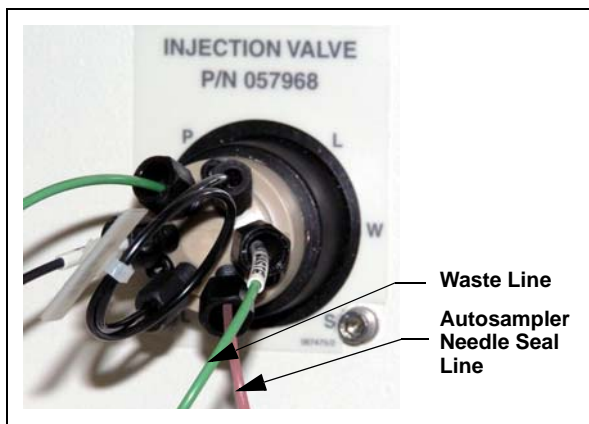

Figure 4. Dionex ICS-900 injection valve
3. Connect the needle seal line to port **S** on the injection valve (see Figure 4).